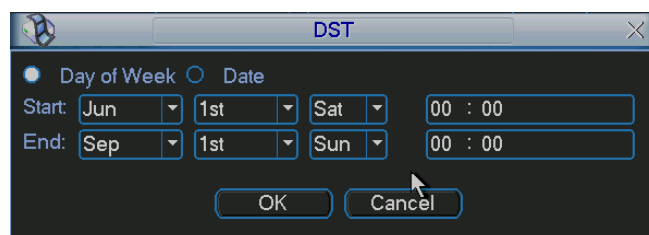
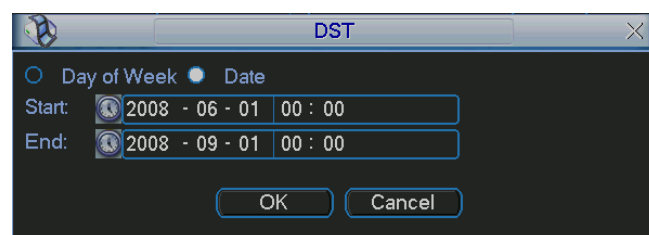

Figure 4-40
Figure 4-41
- DST: Here you can set DST time and date. Please enable DST function and then click set button. You can see an interface is shown as in Figure 4-40. Here you can set start time and end time by setting corresponding week setup. In Figure 4-40, enable date button, you can see an interface is shown as in Figure 4-41. Here you can set start time and end time by setting corresponding date setup.